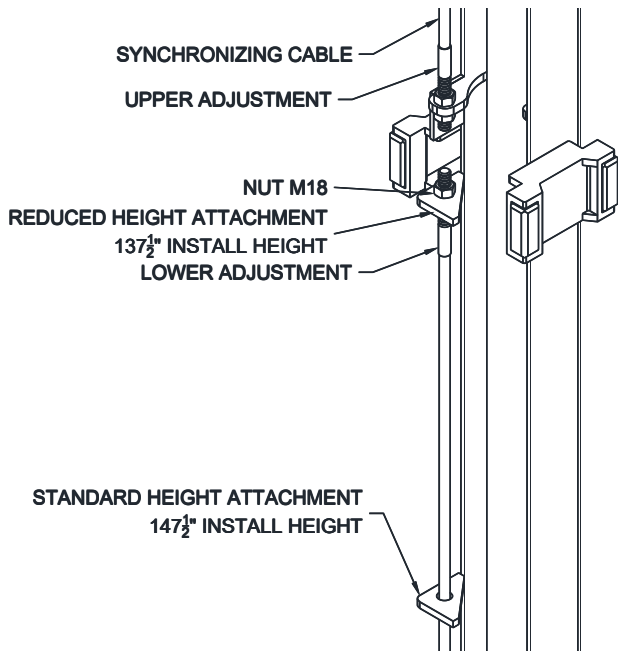

Fig. 6 – Synchronizing Cables
- 18) Attach one end of synchronizing cable to carriage. See **Fig. 6** for proper attachment.
- 19) Route cable up and over sheave in overhead. Follow across to other sheave on opposite column. Route down through carriage to sheave in bottom of column. Route under sheave and up to cable attachment. Lower attachment point is used for Standard Height Installation (147 1/2") and the Upper attachment point is used for Reduced Height Installation (137 1/2"). Use **Fig. 6** for proper attachment.